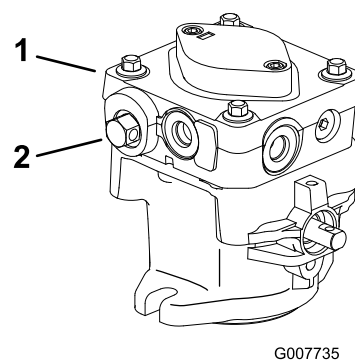

Figure 14
2. Open the by-pass valves by turning them counter clockwise 1 to 2. This allows hydraulic fluid to by-pass the pumps and the wheels to turn (Figure 14).